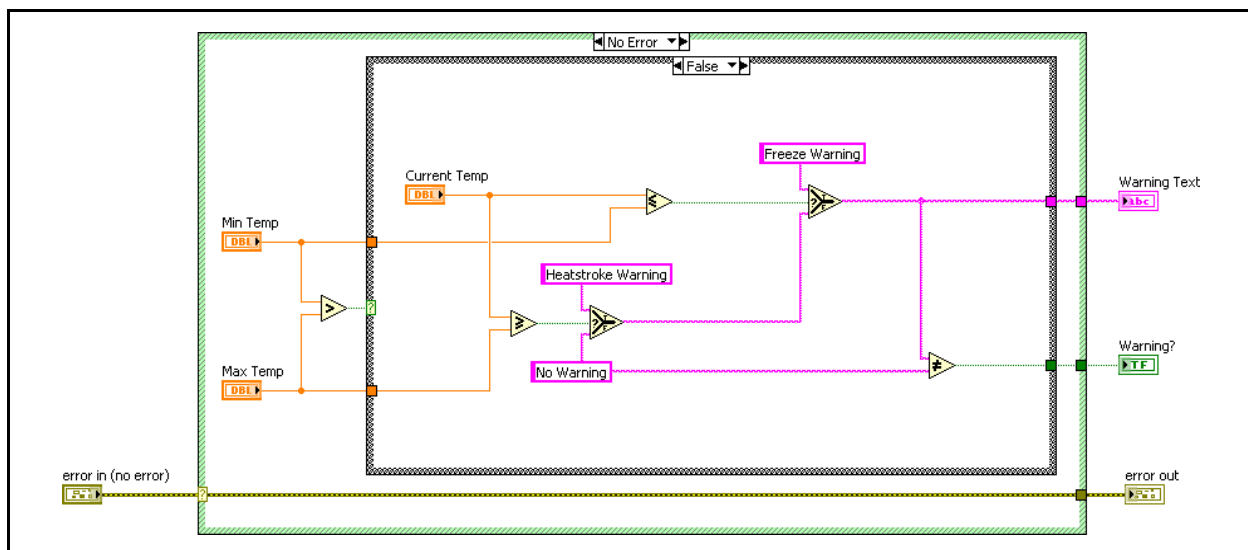

Figure 1. No Error Case of Determine Warnings VI
- ☐ Surround the block diagram code with a Case structure, as shown in Figure 1. Leave the Warning Text and Warning? indicators outside of the Case structure.
- ☐ Wire the error cluster through the Case structure to the error out indicator as shown in Figure 1.